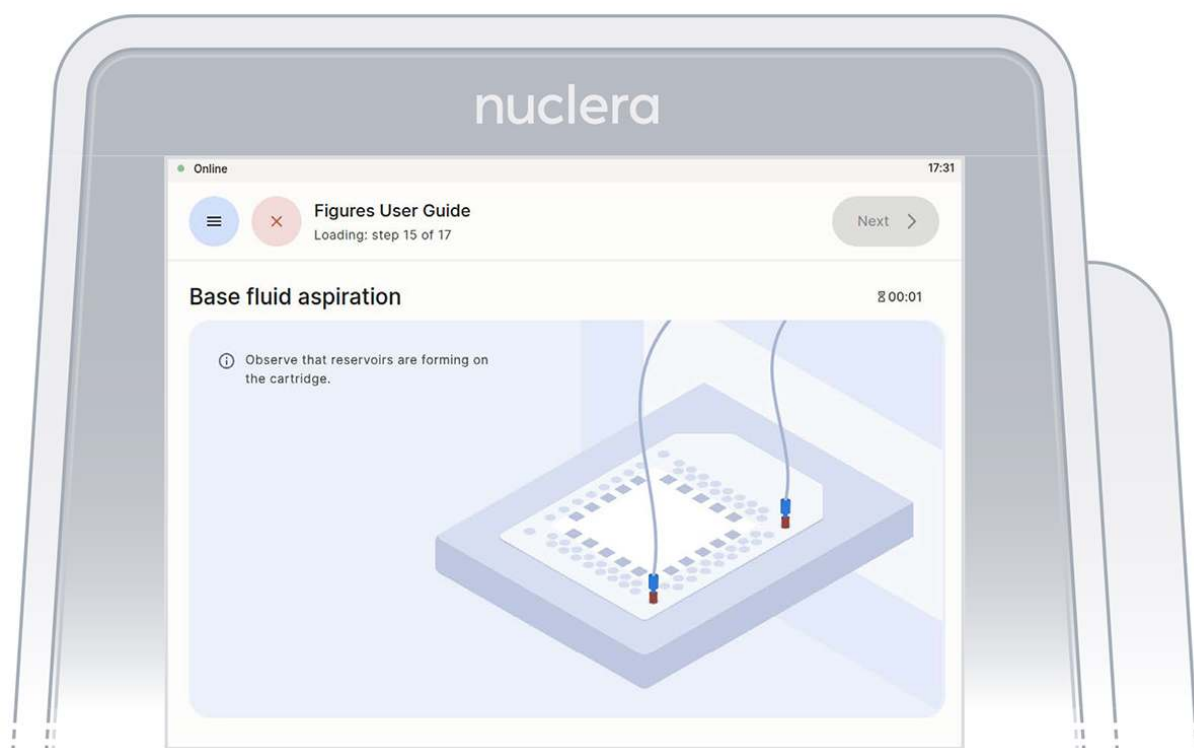

Figure 24: Base fluid aspiration
1. Press the [Next] button to start the aspiration of the base fluid and the loading of the reagents on the cartridge (Figure 24).